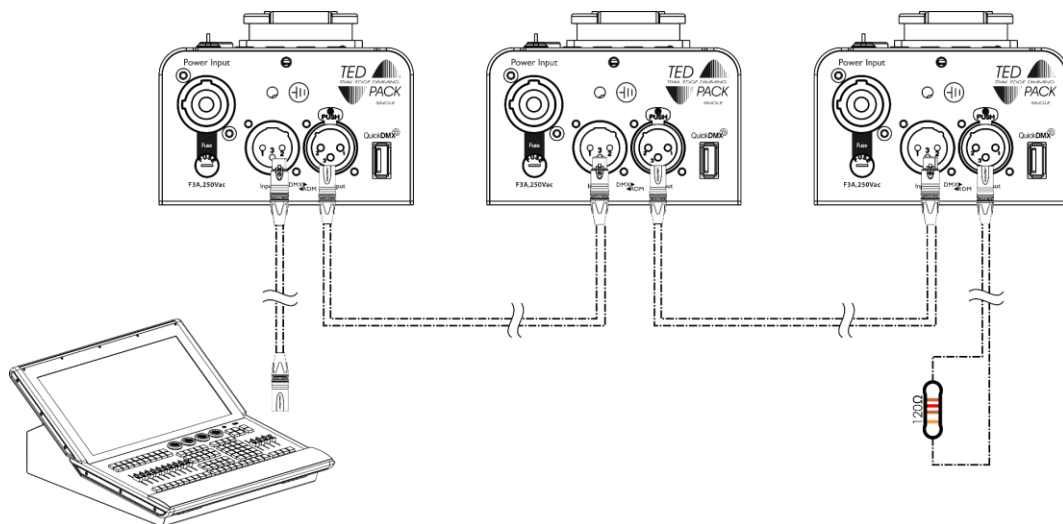

Fig. 09
- 01) Use a 3-pin DMX cable to connect the DMX OUT connector of the lighting controller to the DMX IN connector of the first device. The **DMX LED indicator (A)** on the **control panel (03)** lights up.
- 03) Repeat step 2 to connect all devices in a daisy-chain as shown in Fig. 09.